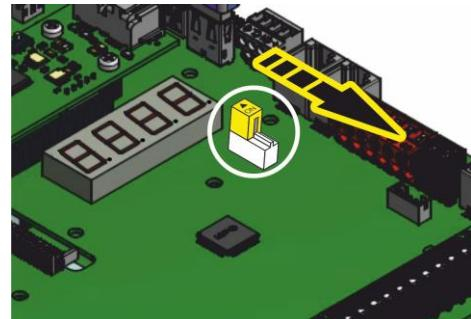

Figure 5: Switch to control unit TST UTH
- Pull down the yellow switch (Figure 5).